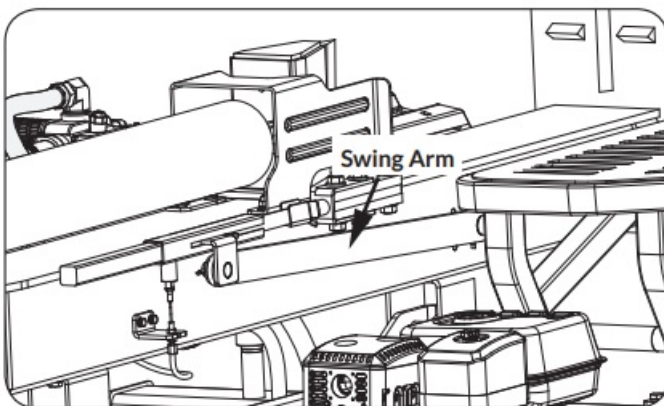

**Figure 9**
1. The front hole of the swing arm is fixed to the short shaft on the side of the left leg with bushing, washer and cotter pin. and the rear hole of the swing arm is fixed on the short shaft on the inside of the bending plate. The inner side is fixed with a bushing, a washer and a cotter pin. (See Figure 9)